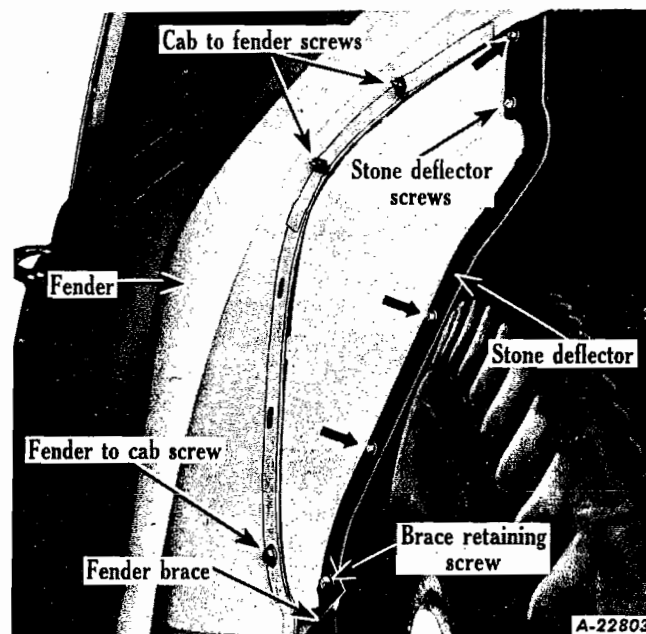

Fig. 68
9. Remove fender brace retaining screw (both sides) from cab (Fig. 68).
10. Remove four fender stone deflector to cab retaining screws on both sides (Fig. 68).
11. Remove fender to cab retaining screw and two cab to fender retaining screws from inside of cab on both sides (Fig. 68).
12. Remove two fender side shield to cowl retaining screws on both sides (Fig. 68).